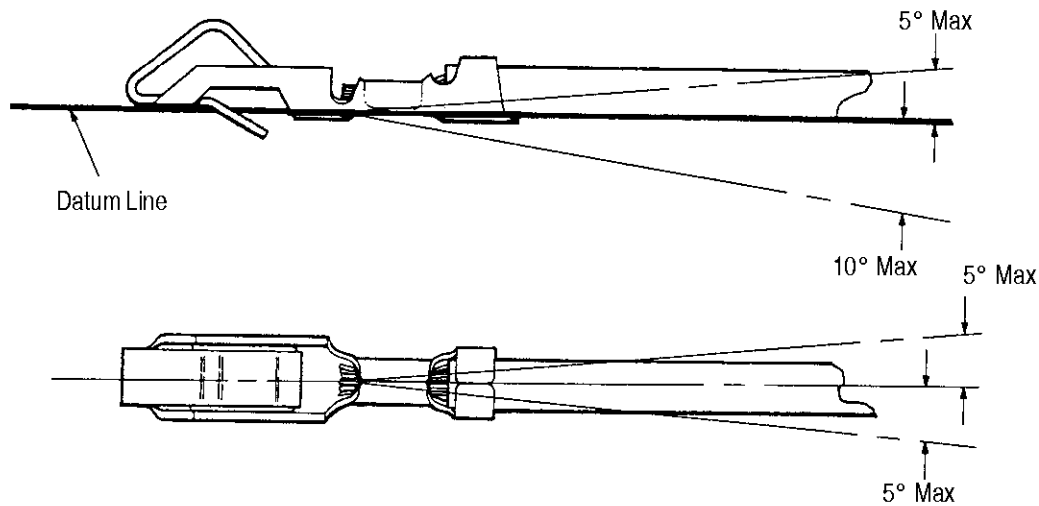

Figure 3
1. The contact, including the cutoff tab and burr, shall not be bent above or below the datum line more than the amount shown in Figure 3.
2. The side-to-side bending of the contact shall not exceed the limit specified in Figure 3.